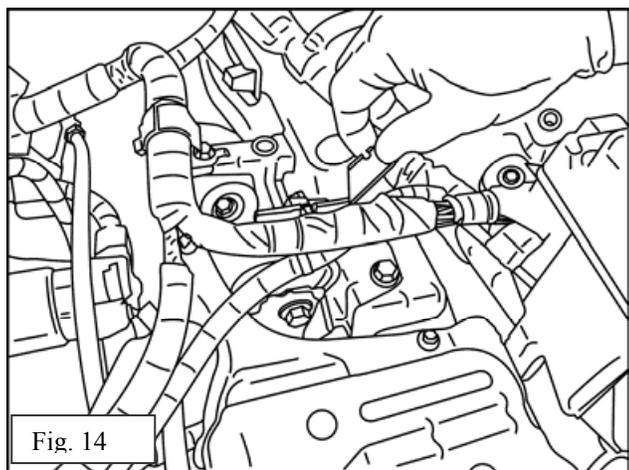

Fig. 14
- (c) In order to access wiring loom support plastic, carefully cut and / or remove electrical tape on loom support plastic as shown in Fig. 14. Be sure not to cut any of the wires or damage the insulation.